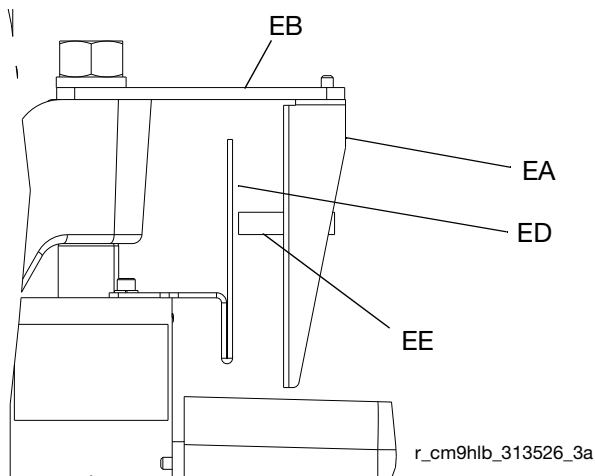

FIG. 11
- c. *For S20 supply systems:* Attach the actuator (ED) to the ram cylinder endcap, so the sensor (EE) passes in front of the bracket (ED) at the correct level for drum low or drum empty. See FIG. 11.